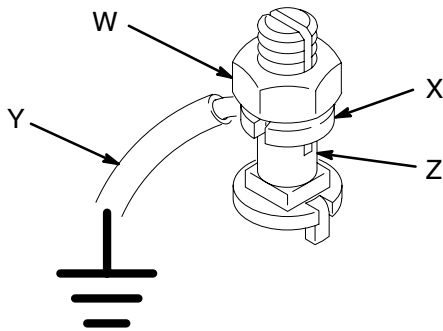

Fig. 3
1. *Pump*: use the ground wire and clamp (supplied). See Fig. 3. Loosen the grounding lug locknut (W) and washer (X). Insert one end of the ground wire (Y) into the slot in lug (Z) and tighten the locknut securely. Connect the other end of the wire to a true earth ground.